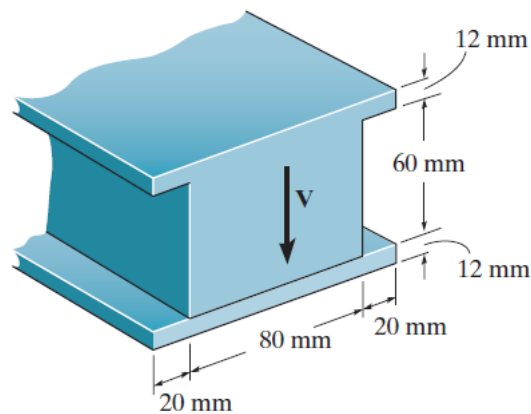

Figure Q3(b)
- (a) Two vertical forces are applied to a beam as shown in Figure Q3(a)(i) and Figure Q3(a)(ii) shows the cross section of the beam. Determine the maximum tensile and compressive stresses in portion BC of the beam.
- (b) Determine the maximum shear stress in the strut shown in Figure Q3(b) if it is subjected to a shear force of $V = 20$ kN.